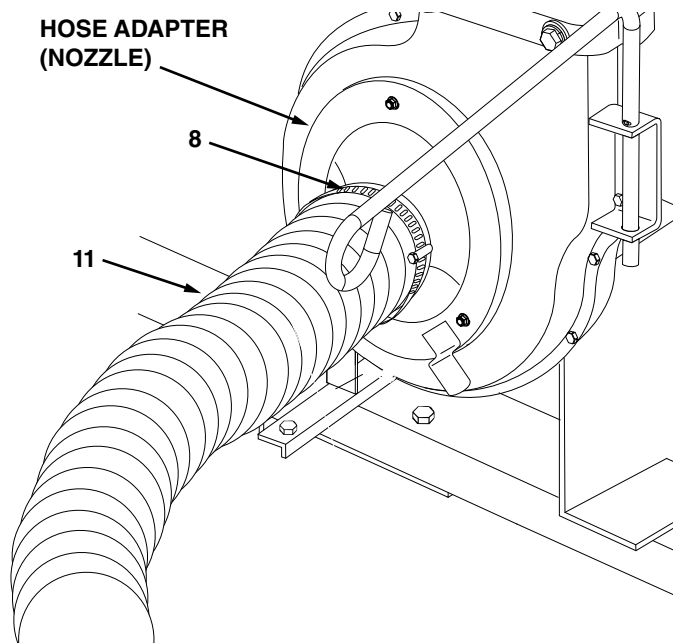

FIGURE 9
- Place a hose clamp (8) onto the end of the hose (11). Push the hose onto the hose adapter (nozzle). Tighten the hose clamp onto the hose and hose adapter. Do not collapse the hose adapter when tightening the clamp. See figure 9.